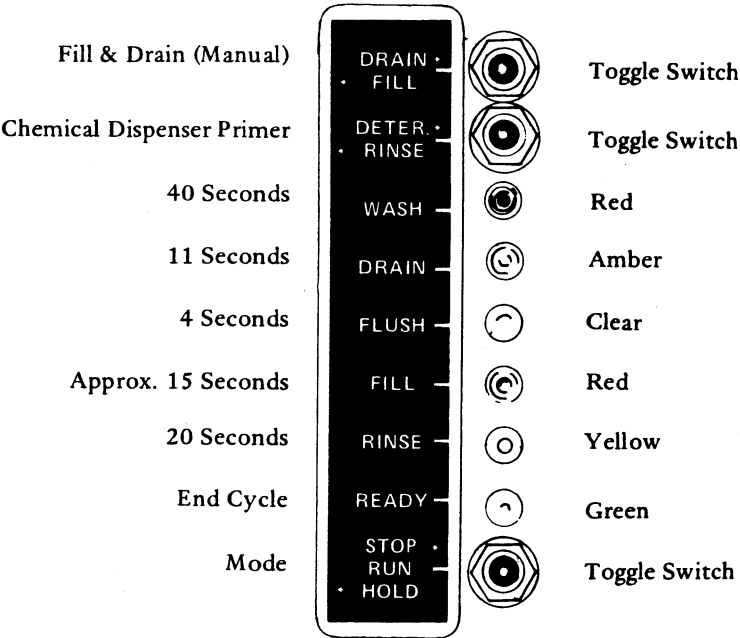

Figure 1
1. Wash cycle — 40 seconds. Figure 1.